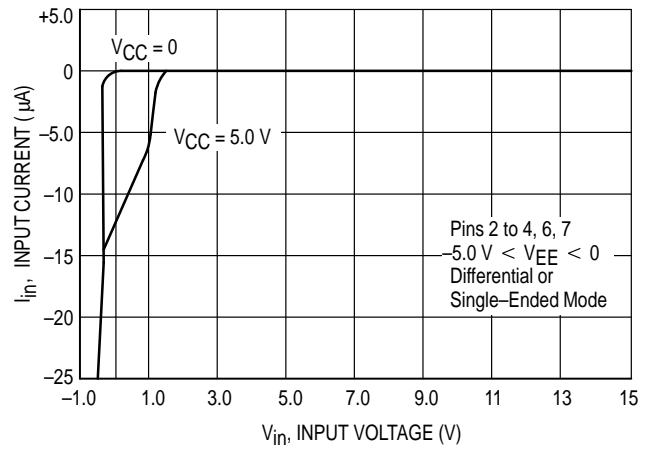
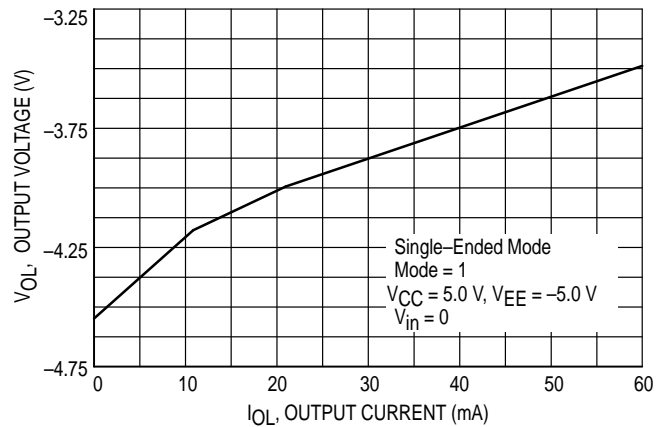

Figure 10. Output Voltage versus Output Source Current
Figure 12. Internal Positive Bias Current versus Load Current
In this mode (Pin 4 ≥ 2.0 V) V_{CC} requires +5.0 V, and V_{EE} requires -5.0 V, both $\pm 5.0\%$. Pins 2, 3, 6, and 7 are inputs for the four drivers, and Pins 15, 14, 11, and 10 (respectively) are the outputs. The four drivers are independent of each other, and each output will be at a positive or a negative voltage depending on its input state, the load current, and the supply voltage. Figures 10 & 11 indicate the high and low output voltages for $V_{CC} = 5.0$ V, and $V_{EE} = -5.0$ V. The graph of Figure 10 will vary directly with V_{CC} , and the graph of
In the single-ended mode, V_{EE} must be -5.0 V, $\pm 5\%$ in order to comply with EIA-423-A standards. Figures 12 and 13 indicate the internally required bias currents as a function of total load current (the sum of the four output loads). The discontinuity at 0 load current exists due to a change in bias current when the inputs are switched. The supply currents vary $\approx \pm 2.0$ mA as V_{CC} and V_{EE} are varied from $|4.75$ V| to $|5.25$ V|.
The above equation assumes I_O has the same magnitude for both output states, and makes use of the fact that the absolute value of the graphs of Figures 10 and 11 are nearly identical. I_{B+} and I_{B-} are obtained from the right half of Figures 12 and 13, and $(V_{CC} - V_{OH})$ can be obtained from Figure 10. Note that the term $(V_{CC} - V_{OH})$ is constant for a given value of I_O and does not vary with V_{CC} . For an application involving the following conditions:
2) The device may be operated in the single-ended mode (Pin 4 = 1) with V_{EE} connected to any voltage between ground and -5.25 V. Outputs in the high state will be at a voltage as shown in Figure 10, while outputs in a low state will be referenced to V_{EE} .